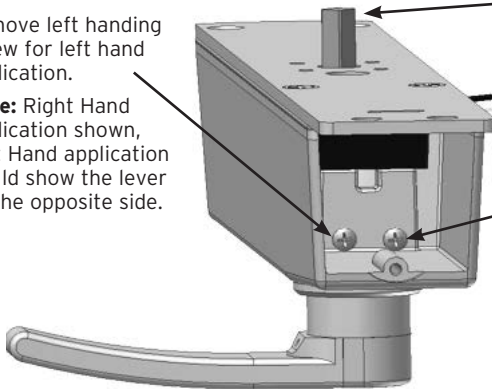

Figure 4
C-1 On Deadlatch Model only, remove Handing Screw (**FIG 4**): **Caution: The appropriate handing screw must be removed for proper lock function after installation.**
Inside the battery compartment, the lock comes with both handing screws installed. Based on the door application handing, Left Hand (LH) or Right Hand (RH) one screw must be removed as noted in **FIG 4**.
Note: A RH Deadlatch lock is shown in **FIG 4**.
For Deadlatch Locks only, orient the lock as shown in **FIG 4** (spindle up) and remove the appropriate shipping screw, left screw for LH or right screw for RH.